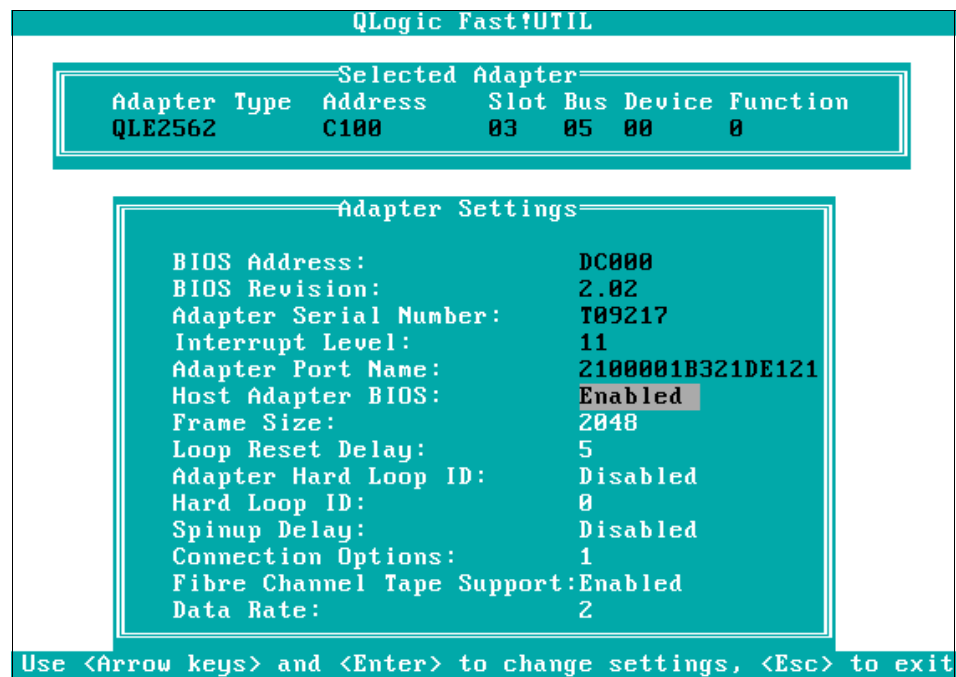

Figure 5-49 Enable BIOS
7. Select **Host Adapter BIOS** and enable it, as shown in Figure 5-49.